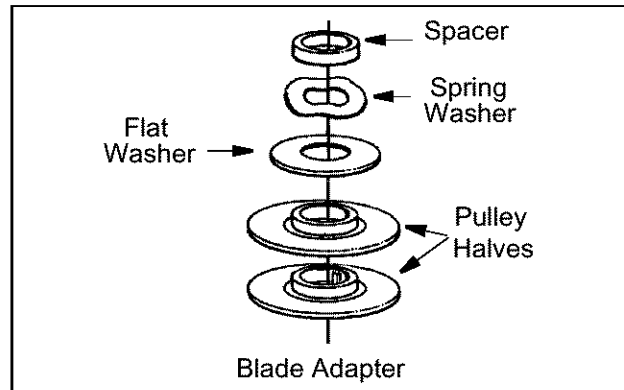

Figure 13
- Place the two pulleys, the flat washer, the spring washer and the spacer on the engine crankshaft. See Figure 13.
- Remove the blade bell support, the blade, and the blade adapter, and the pulley half. See Figure 13. Remove the belt.
- Reassemble the transmission belt cover. Make sure to maintain the correct order while reassembling the blade, the blade adapter, and the pulleys, the washers, and the spacer. Refer to Figure 13.